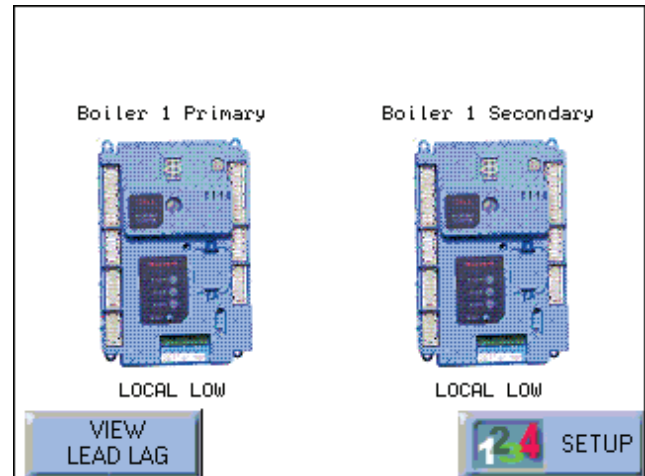

Fig. 111 – Home Screen
1. From the Home screen (Fig. 111), press the View Lead Lag button.